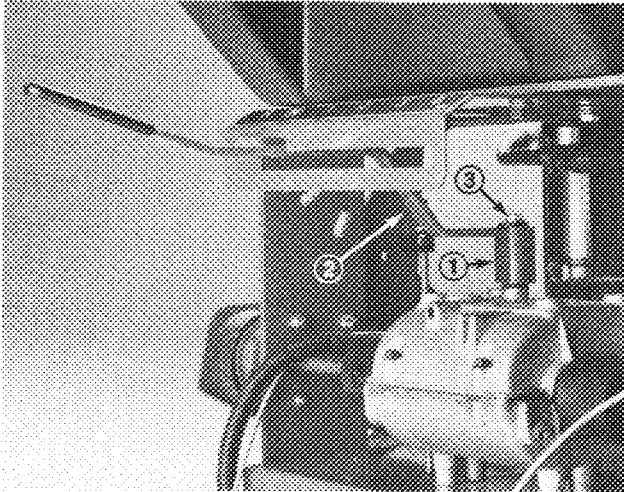

Figure 3
2. Insert shift lever thru slot in control panel and align mounting hole in lever with mounting block on transmission. Secure lever to transmission with 1/4-28 x 2" lg. capscrew and plain washer. Torque capscrew to 100-125 in. lb. (Fig. 3).